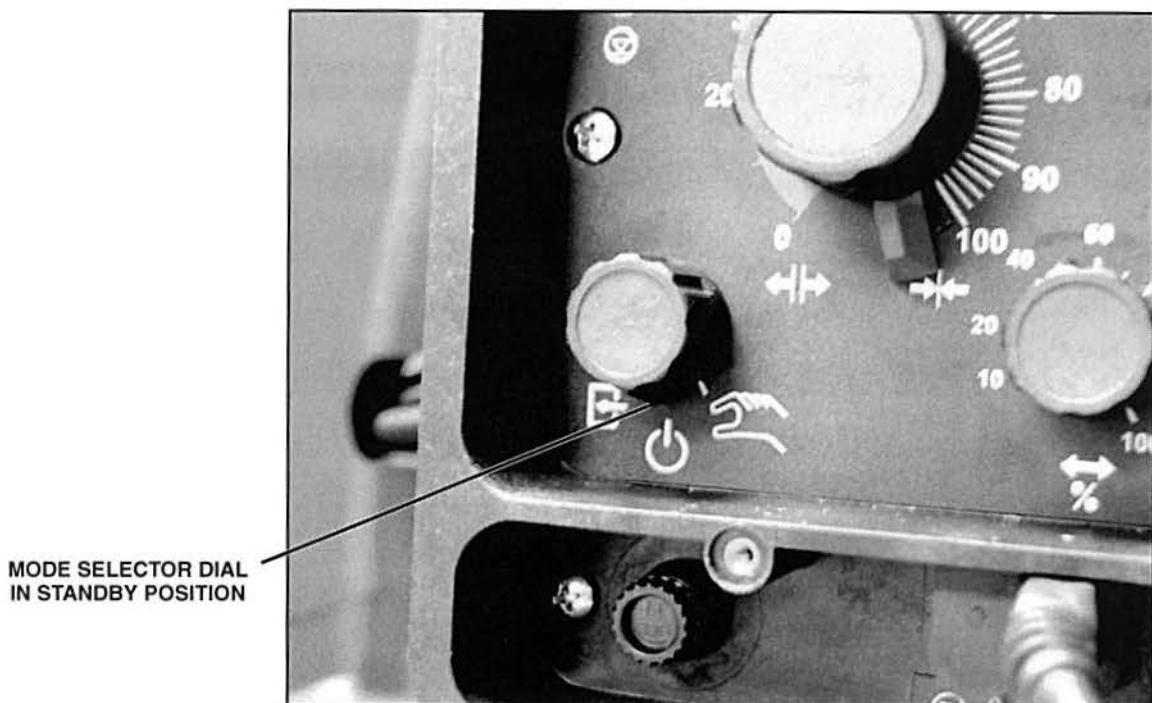

Figure 59. Mode Selector Dial Set to Standby
- A. Set the metering pump's mode selector dial to the Standby position, as shown in figure 59.